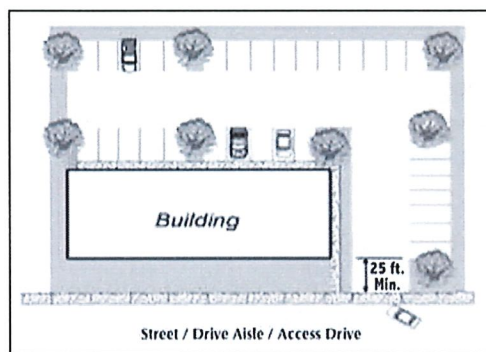

Figure 06: Driveway Transition and Parking Stall Setback
(3) **Transitions from Access Driveways to a Parking Lot or Parking Segment.** All parking facility driveways shall provide a protected transition distance of not less than twenty-five (25) feet in length from the public right-of-way, street or driveway aisle to the nearest parking space. (See Figure 06)